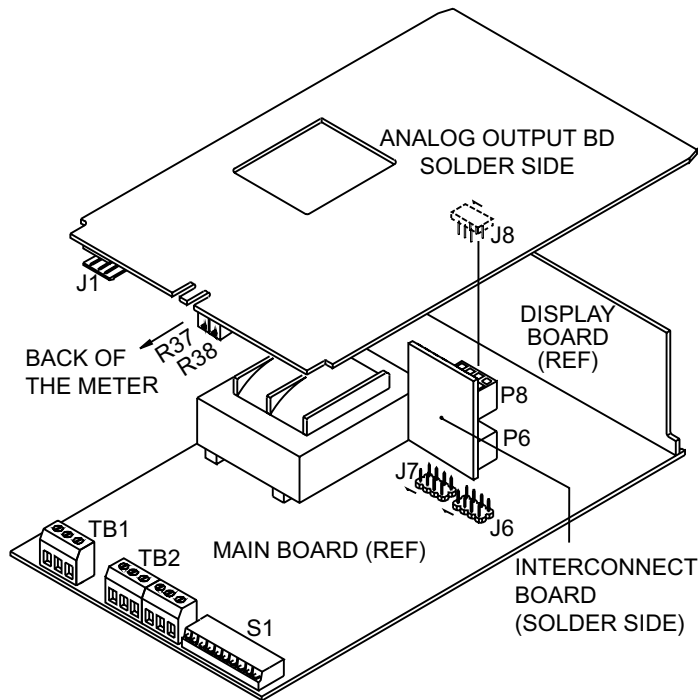

Figure 1-1. Installing the Analog Output Board
Install the analog output board as follows (refer to Figure 1-1):
5. Adjust the input to show a value equal to "An L0". Adjust R38 potentiometer at the back of the board (refer to Figure 1-1) for 4 milliamp output (0 volts).